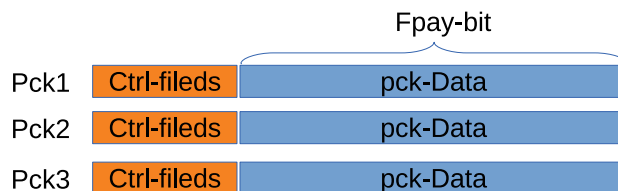

Figure B.2: Single-flit type packet format.
**single-flit** : In this configuration all packets injected to the NoC must consist of only single-flit. The packet control fields are added to packet Data filed as shown in Figure B.2.